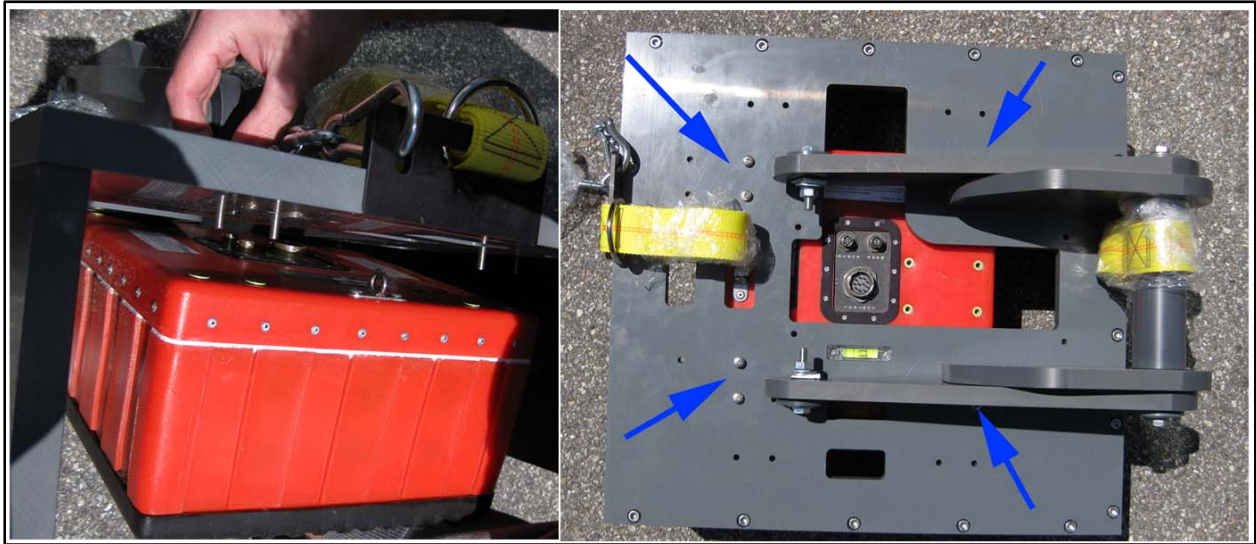

Figure 3: Attaching the 400 MHz antenna with the provided hardware.
- 2** Attach the antenna to the gray antenna mount. Place the antenna in the mount so that the black arrows on the antenna face forward. Line up the 6 attachment points on the antenna top with the correct set of holes on the antenna mount. Attach the antenna using the M6x35 Phillips screws and M6 flat washers (Figure 3).